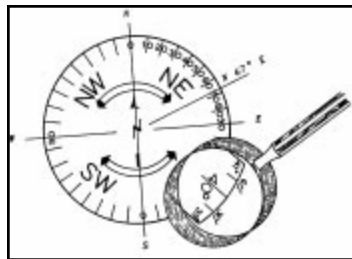

Figure 7-5. Compass Bearing.
Angular measurement is referenced to a circle, and the circle can be broken into more precise measurements of minutes and seconds. There are 360 degrees in a full circle. There are 60 minutes for each degree and 60 seconds in each minute. When shown as a compass circle, the circle is divided at North, East, West, and South points into four sections of 90° each. The four 90° sections are called QUADRANTS and designated: Northeast (N.E.), Northwest (NW), Southeast (SE) and Southwest (SW). This is illustrated by Figure 7-5.